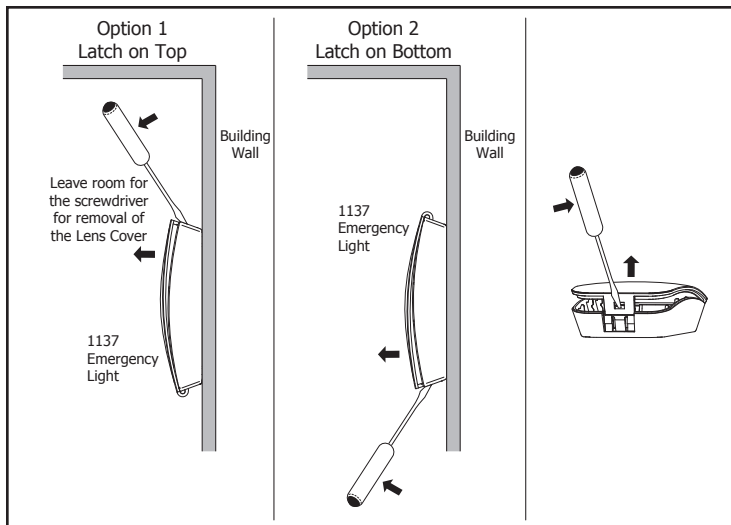

Figure 3: Removing the Cover Lens
1. Open the cover lens. Insert a flat screwdriver in the cover lens latch on the base and gently pry the screwdriver handle while pulling the cover lens open from the base (see Figure 3).
3. The 1137 may be mounted with the latch toward the top or toward the bottom (See Figure 3). If mounting with the latch toward the top, it is important to leave room for access to the latch and to fully rotate the cover lens to the open position for battery installation or replacement. Using two #6 screws in the two mounting holes, mount the base vertically to the wall.